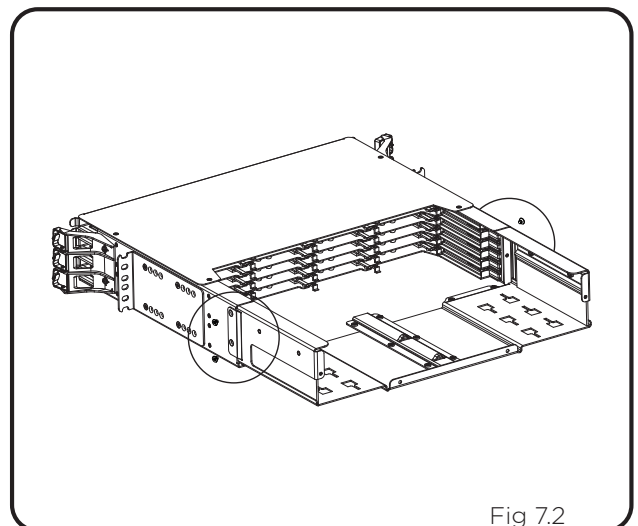

Fig 7.2
7.5. Secure the Extension to the UHD Chassis by tightening screws on both sides (2 screws on each side – Fig 7.2)